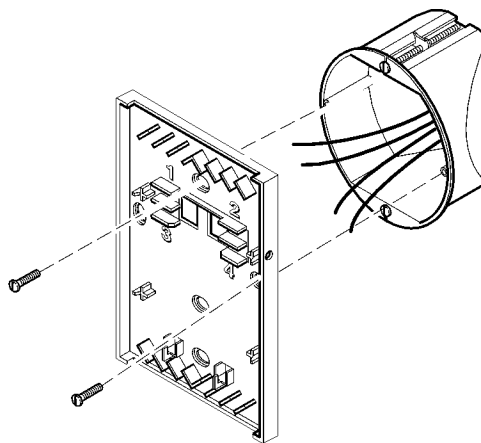

Figure-5 1/4 DIN Electrical Box Mounting.
Caution: Failure to use vertical mounting holes as shown in Figure-5 may cause a short of the LON.
4. Using two appropriate screws (not provided), mount base plate to electrical box using vertical mounting holes indicated in Figure-5.